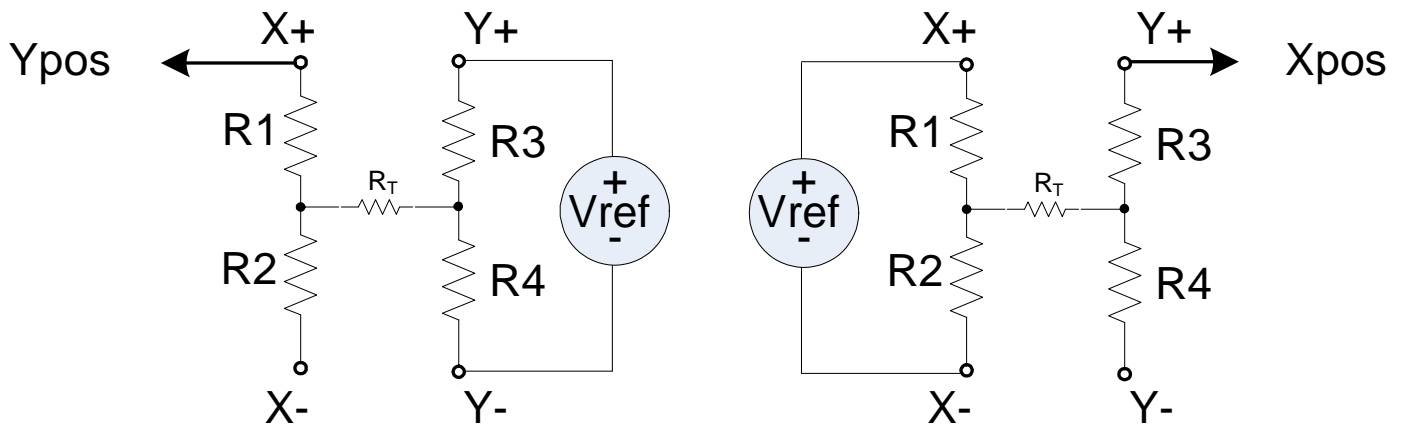

Figure 14. Ordinate (Y) and abscissa (X) coordinates measurement setup
The X coordinate is measured in a similar fashion with the bottom resistive sheet (X) biased to create a voltage divider by R1 and R2, while the voltage on the top sheet is measured through R3. Figure 14 shows the coordinates measurement setup. The resistance  $R_T$  is the resistance obtained when a pressure is applied on the screen.  $R_T$  is created by the contact area of the X and Y resistive sheet and varies with the applied pressure.